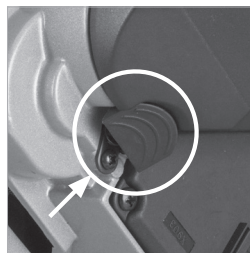

Fig. 40
- Press the black arbor lock button to lock the arbor. (**Fig. 40**)